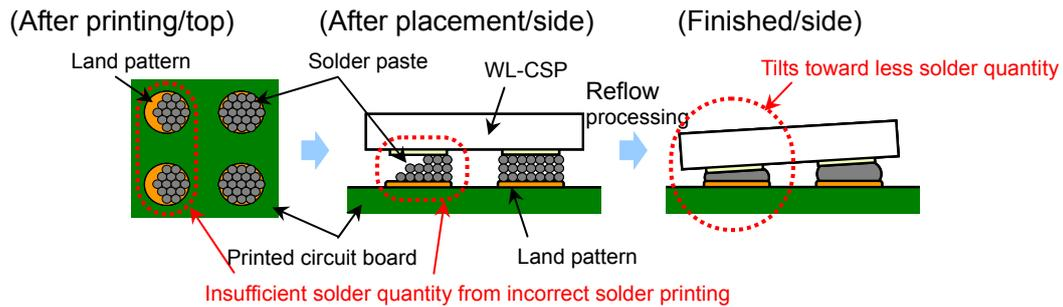

Figure 28: Example of device tilt with a 4-pad type WL-CSP
3.3 Solder Stencil Designing. For screening tests,  $\theta > 10^\circ$  should be a good place to start. Because of its balanced structure, device tilt will rarely occur on the long side of a 2-pin type WL-CSP, and 4-pin, 6-pin type WL-CSP likewise. In any rare case such abnormality should occur, the most likely cause would be due to issues in solder printing, such as clogging. Refer to Figure 28. To prevent minor issues like this, fixing a maintenance flow chart, especially cleaning procedures, should also be effective.